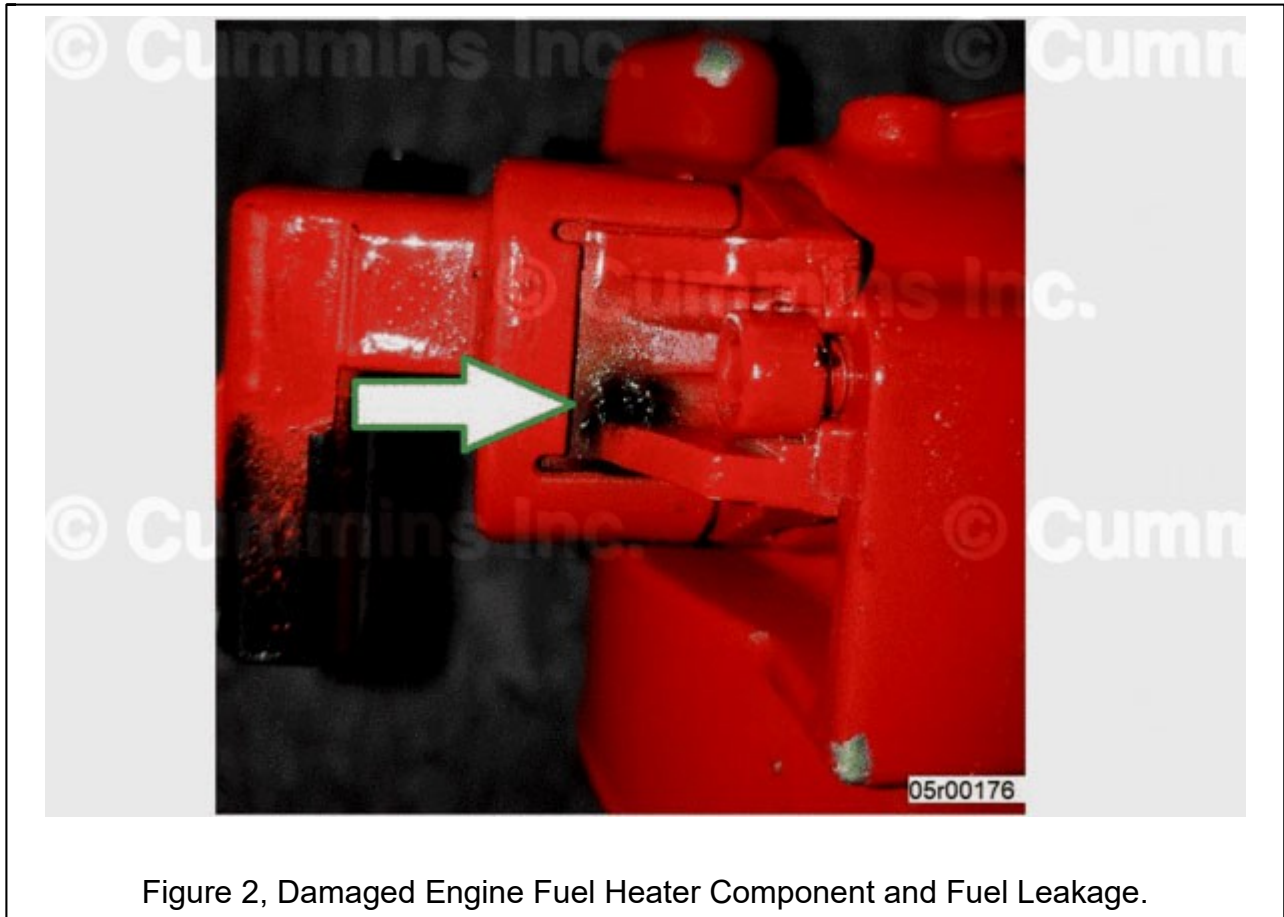

Figure 1, Location of Fuel Filter Heating Element.
- Locate the Stage 1 fuel filter head on engine. The engine fuel heater is located on the top right side of the fuel filter head. See Figure 1 below.
Note: The location in the connector (3) of the red and white wires in Figure 1 above may differ slightly based on previous campaign work done to this engine.